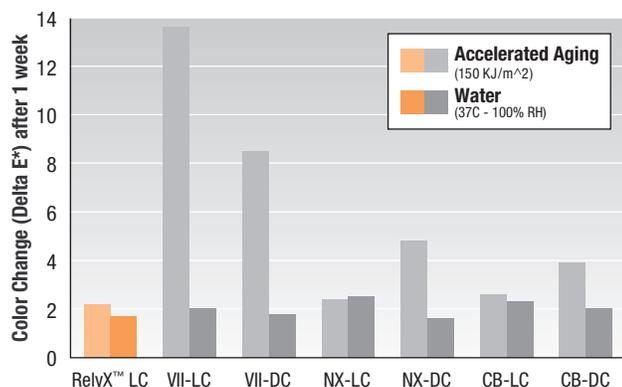

Figure 8.
The study at the University of Texas at Houston[†] varied slightly in methodology from the 3M ESPE study. Discs were prepared, cured and analyzed for reference color in a similar manner. The discs were then split into two groups. The first group was stored in water at 37°C for 1 week. The second group was subjected to accelerated aging conditions by exposing the samples to a light source (150KJ/m²) for 1 week. The samples were then retested for color and the ΔE^* color difference was recorded for each sample and compared to the reference value. The products tested are abbreviated in the graphs as VII (Variolink® II), CB (Calibra™), and NX (Nexus™). The cements were cured by light exposure (LC) or by self cure (DC). The color change for each sample is shown in Figure 8.